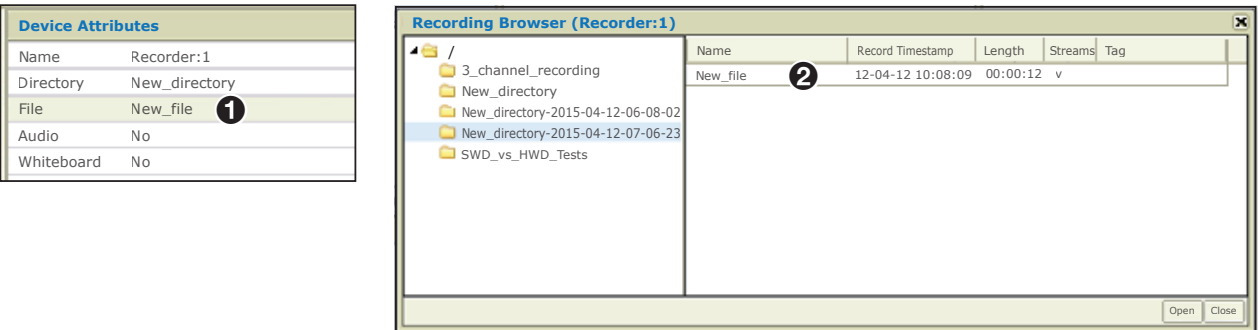

Figure 99. Create a File Using Direct Text Input
If a specific filename is desired, the name is entered in the **File** field (see figure 99, ❶), which then becomes the name of the file in the recording (❷).